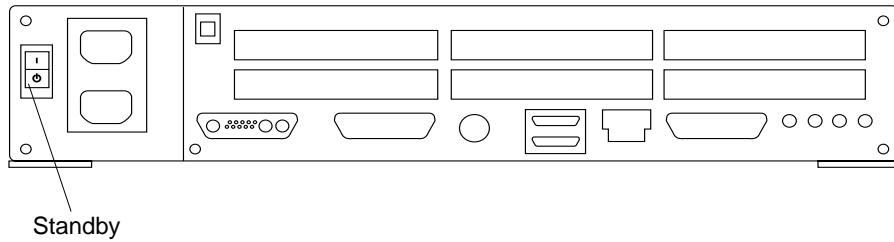

FIGURE 6-1 Standby Switch
5. **Remove DC power from the system by pressing the power-on/standby switch on the back panel (FIGURE 6-1).**